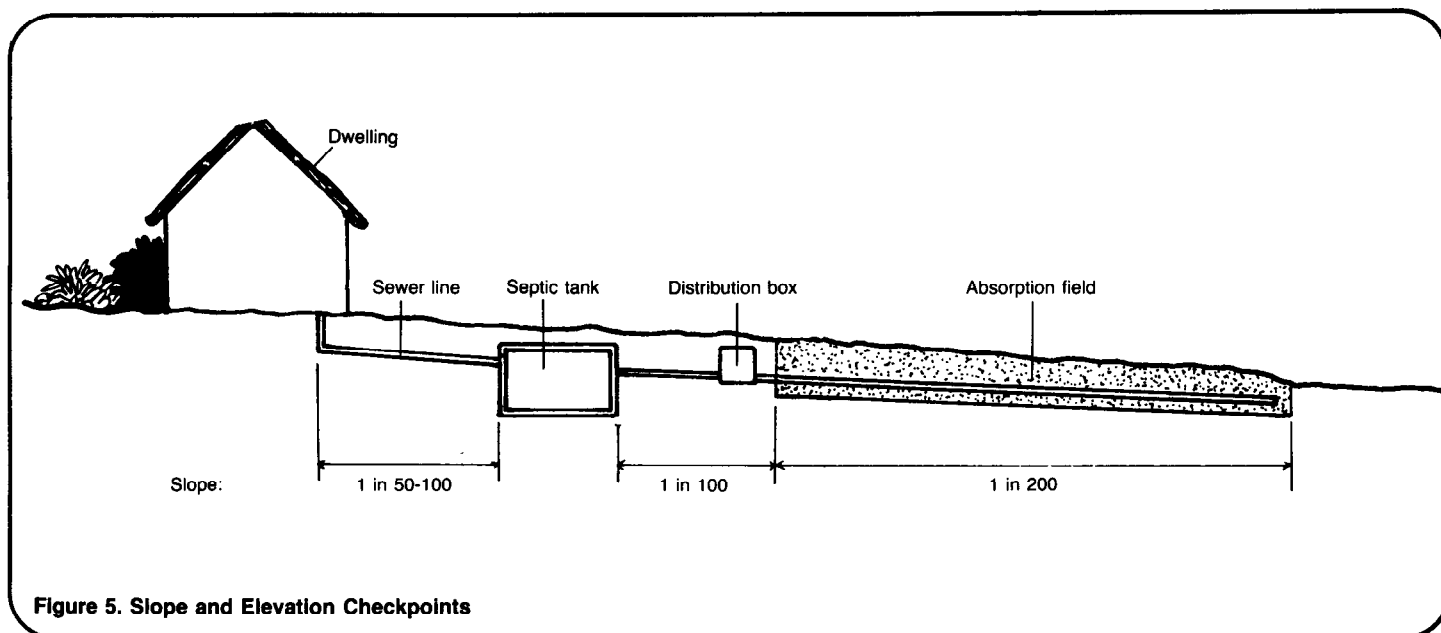

Figure 5. Slope and Elevation Checkpoints
Sewer pipe. The pipe must be of noncorrosive, durable material such as cast-iron soil pipe, vitrified clay, concrete, bituminized fiber, asbestos cement, or plastic. The trench line for the pipe should be as straight as possible from the dwelling to the septic tank and from the tank to the absorption field. Avoid bends. Plan the pipe line so that it falls evenly and smoothly from the dwelling to the tank with a slope of from 1 in 50 to 1 in 100, and from the tank to the field with a slope of 1 in 100. Figure 5 shows the slope of these pipes. The total length of pipe needed will be the distance along the trench line from the dwelling to the tank and from the tank to the absorption field (see "Designing Subsurface Absorption Systems," SAN.2.D.1). Sewer pipe is generally 100mm in diameter.
2. The entire system must be designed so that sewage moves by gravity flow from the building, through the septic tank, and to the subsurface absorption system. As Figure 5 indicates: